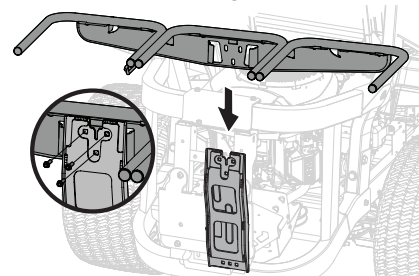

Figure 11
1. Install and secure the hanger assembly (683-04498B) onto the vertical bagger support using three carriage bolts (710-0276), three cup washers (736-0242) and three flange lock nuts (712-04063) from hardware pack 689-02619. See Figure 11.